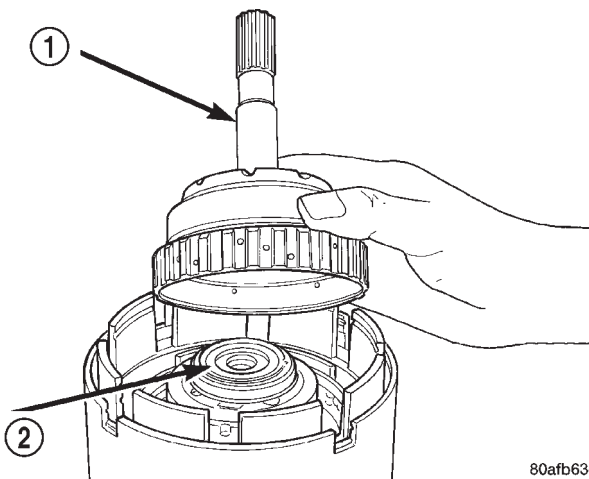

Fig. 286 Install Underdrive Shaft Assembly
(38) Install the underdrive shaft assembly (Fig. 286).